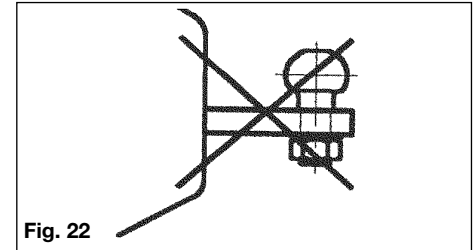

Fig. 22
3. A bolted-in type ball coupling (Fig. 22) is only permissible if the thread is locked or welded.